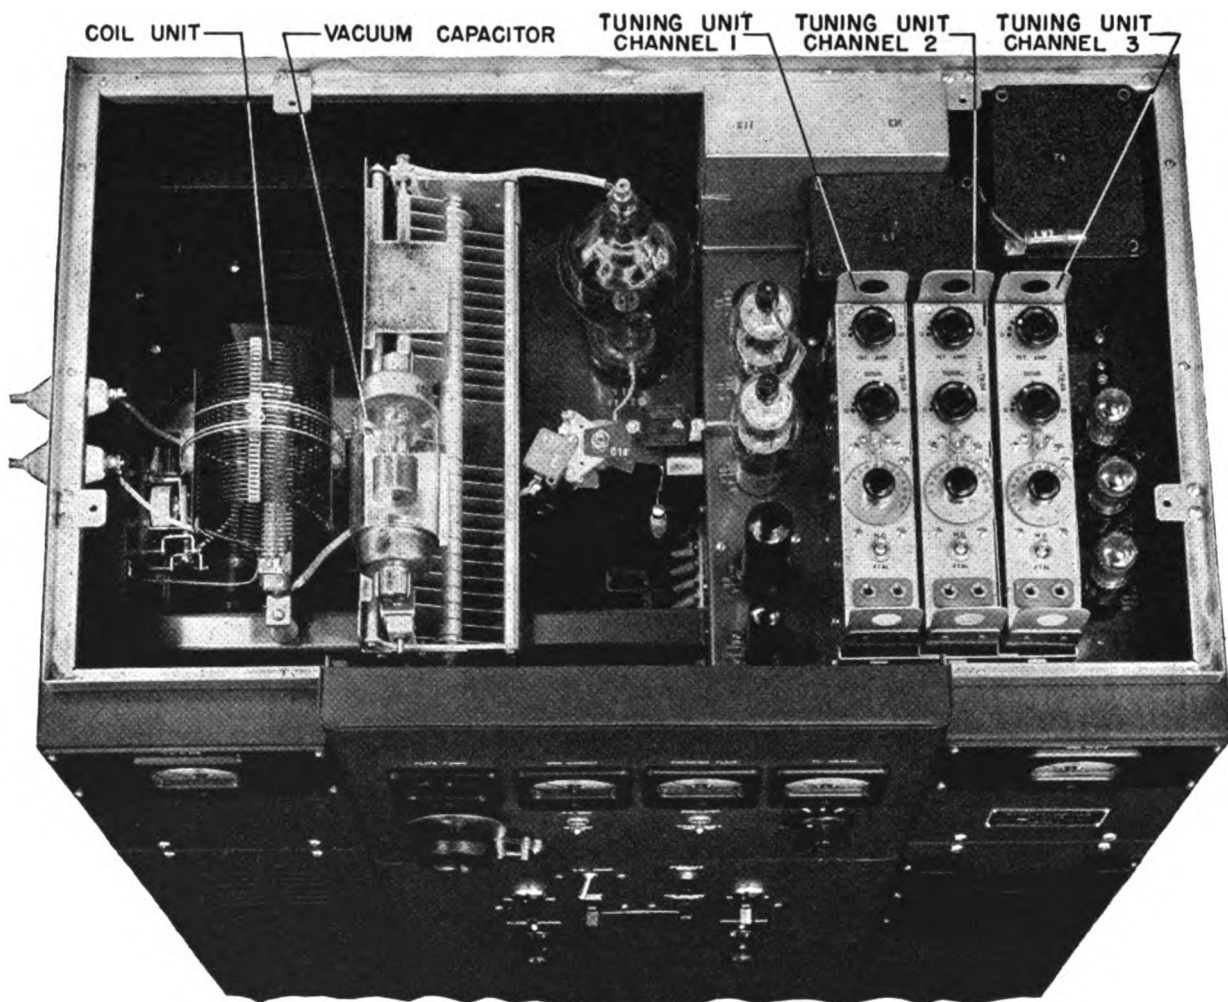

FIGURE 27. RADIO TRANSMITTER BC-610-(*), TOP VIEW, COVER REMOVED.
- (1) The upper section includes all of the radio frequency components, indicating instruments, filament supply for the radio frequency tubes and channels for plugging in tuning units to transmit at various frequencies. See figure 27 for these tuning units and the components of the top deck. On the front panel of the upper section are located meters to indicate the following: doubler-buffer plate current or inter-